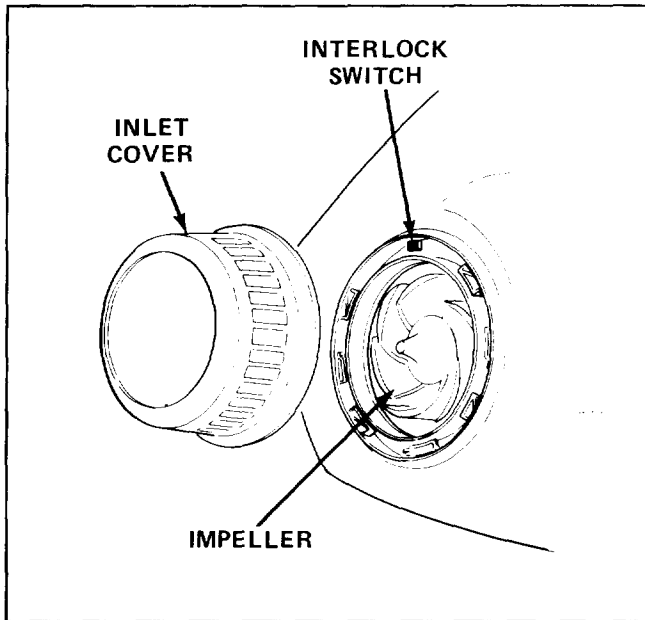
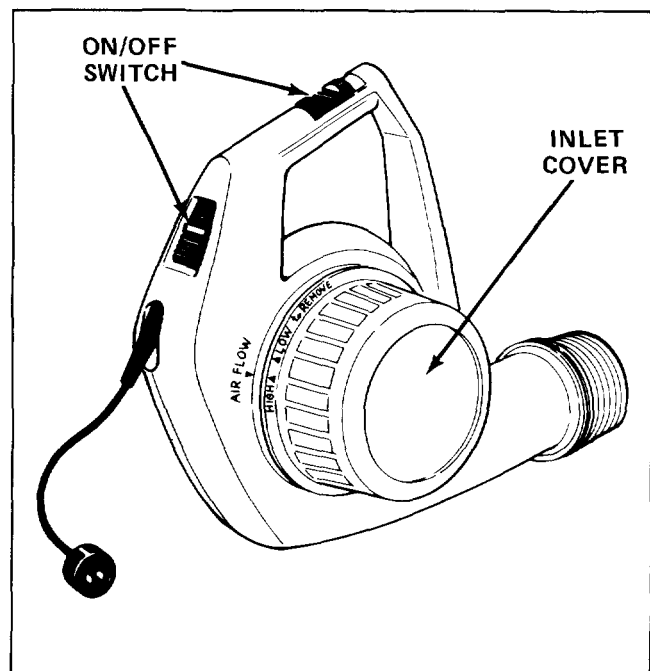

Figure 2
Figure 7
3. Insert inlet cover and rotate clockwise until locking tabs are fully engaged (Fig. 2). The "HIGH" triangle on the inlet cover will be aligned with the "AIRFLOW" triangle on the housing (Fig. 7). The cover locks with a snapping action.
1. Remove inlet cover by rotating it counterclockwise until "REMOVE" arrow aligns with airflow triangle on blower housing (Fig. 7). Locking tabs release with a snapping action. Pull off cover.
Your blower features a variable inlet cover (Fig. 7) which allows you to adjust the volume of airflow by rotating the inlet adjustment knob. Low and intermediate flow will allow you to easily direct debris from open doorways, screens, etc. Experience with the unit will indicate the amount of airflow necessary for each application.
2. Slide on/off switch to the "on" position (Fig. 7).